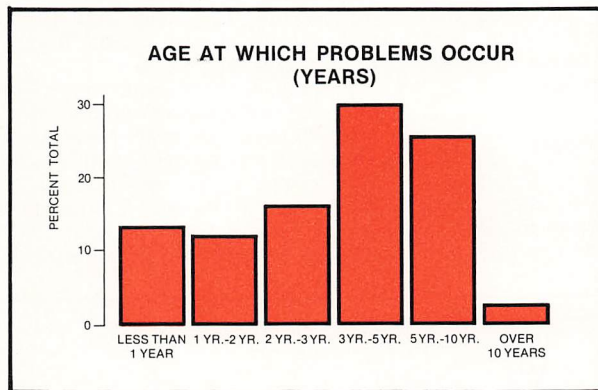

FIG. 5
- Figure 5 - This illustrates the average age at which "problem" jobs require attention, or become "problems". It is noteworthy that over half of the problems occur between three and ten years, and that the frequency of problems is roughly even over the first three years. The low value for roofs older than ten years is probably partly the result of the fact that beyond some age the roof is considered to have fulfilled its purpose and is not a "problem" job.